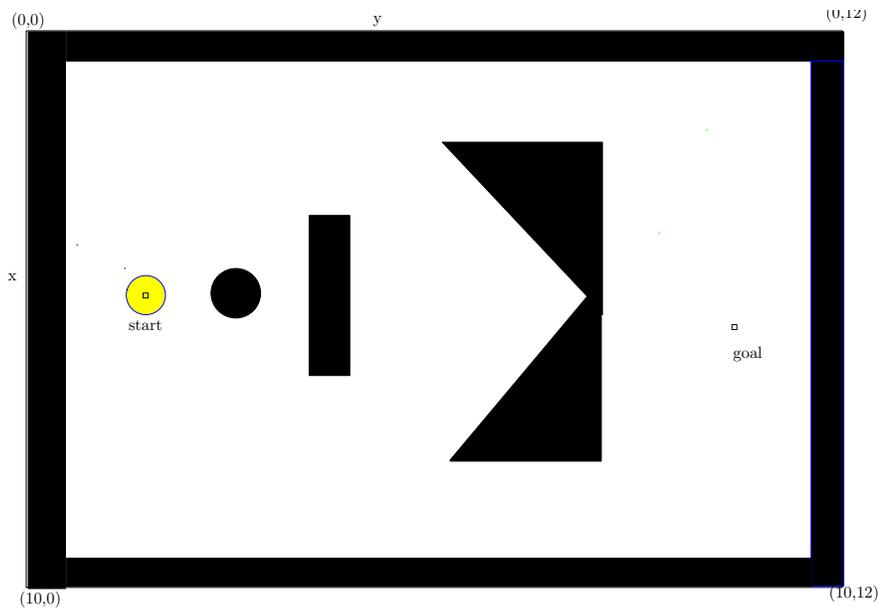

Figure 1: Scenario for Tangent Bug Algorithm
2. Run your system for the following parameters and send us the output path. The system is also shown in figure 1 below.
- (e) Sensor view angle is 360 degree and range R is 0.4 unit i.e it can sense upto 0.4 unit from its current position in any direction as shown by yellow circle in figure 1.